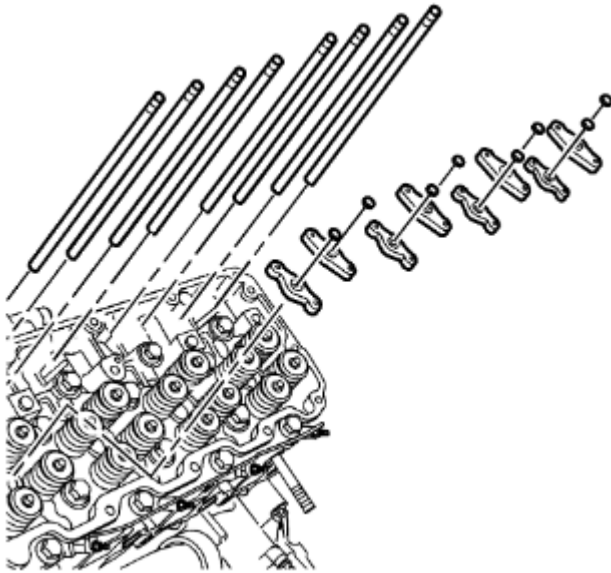

Fig. 68: Installation of valve bridges, pins, and pushrods
- b. Install new M12 cylinder head bolts (fasteners 1-18 in figure 68) and torque them in sequence in the four following stages.